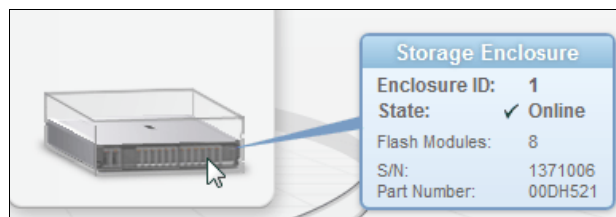

Figure 5-4 First enclosure details
1. After installing an additional storage enclosure into the IBM FlashSystemV9000 rack and cabling it to the internal switches, the IBM FlashSystemV9000 GUI shows the added storage enclosure (the display now differs from the display in Figure 5-3). Now the controller nodes are grouped on the left and the storage enclosures on the right. Hover the mouse over the existing storage enclosure to get its details (Figure 5-4).